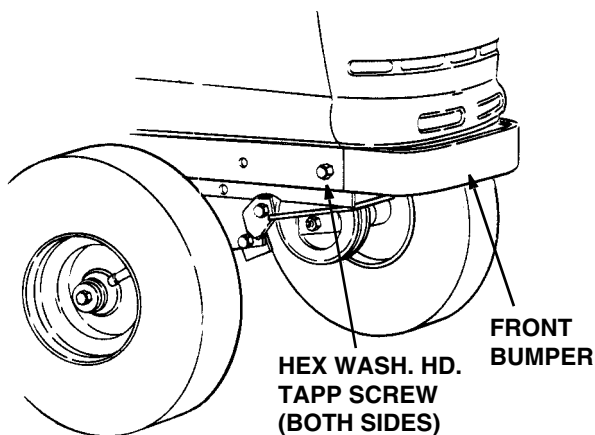

Figure 2
1. Remove the front bumper from the frame by removing the hex wash. tapp screw from each side (See Figure 2). Store the screws and bumper for later reassembly.